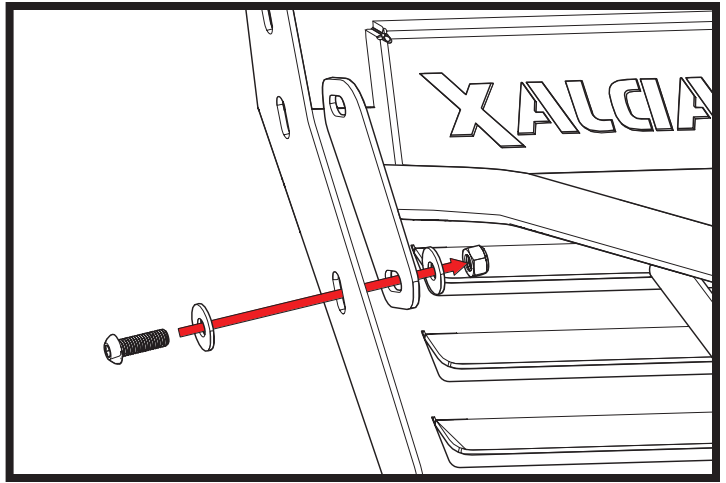

Fig. 12
Hold the brushguard center section up to the mounting arms and place one (1) m8 bolt through the bottom mounting hole of the center section and into the bottom mounting hole of the arms as shown in Fig. 12. Loosely secure this with one (1) m8 nut, and repeat on the opposite side. These bolts will only temporarily hold the center section in place while the side wings are being installed.